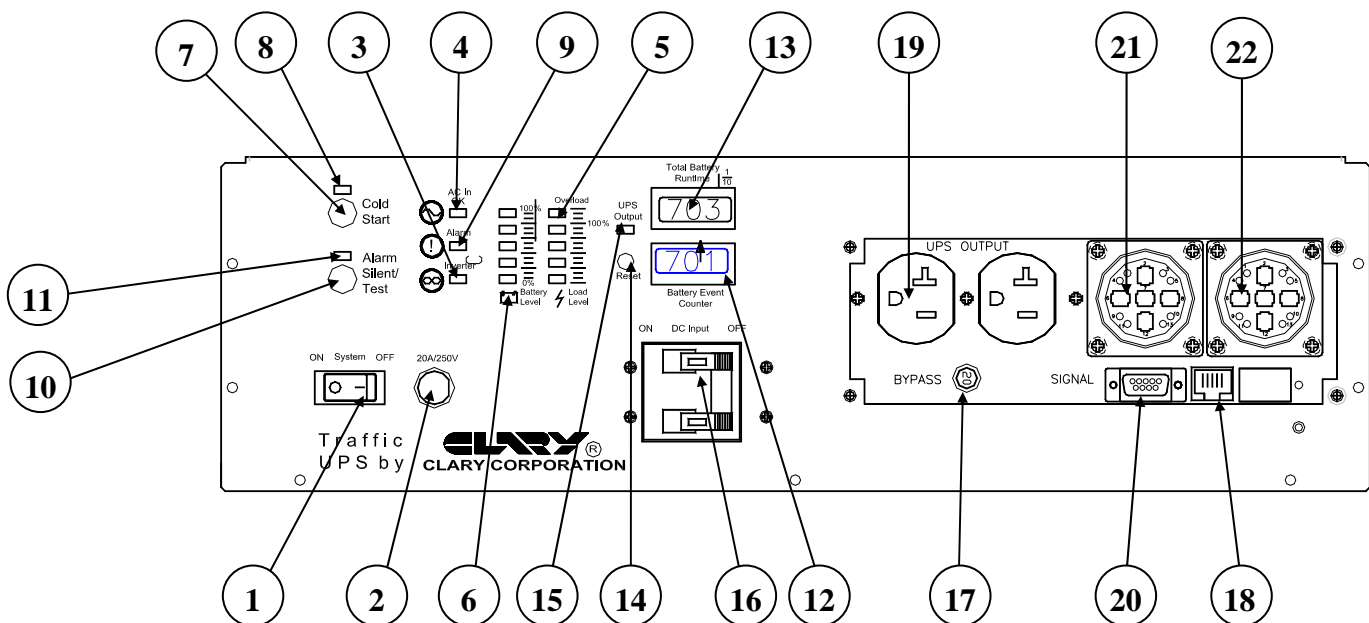

Figure 1: SP2000SN FRONT PANEL VIEW
Figure 1 is the front view of the model SP2000SN. Model SP2000SR is identical in operation; however, items 17 through 22 have been repositioned to the rear panel.